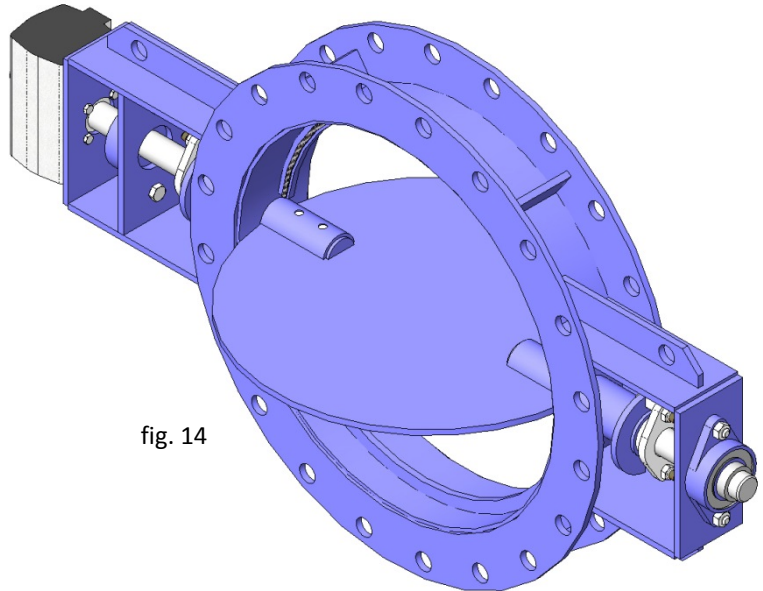

fig. 14
3. Place the swing check (2) in open position (fig. 14) in order to access the seal joints (10). These fit in the half-moon rims in the body (1).